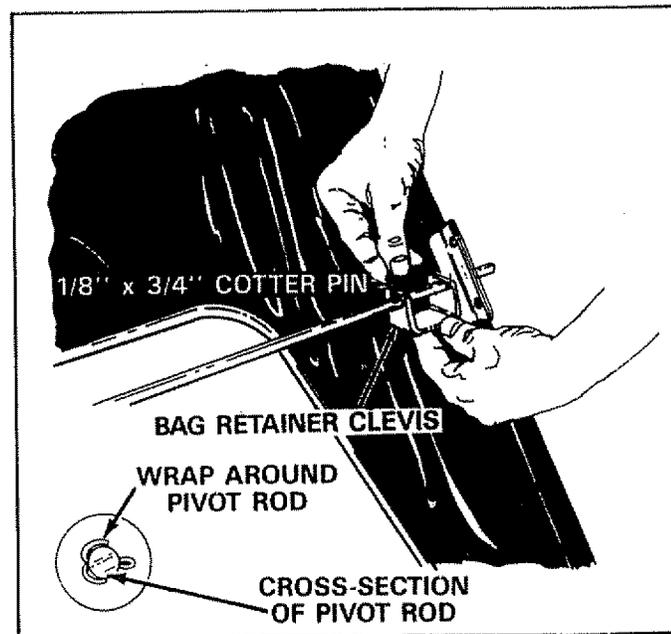

**FIGURE 20**
12. Slide pivot rod through hole in side of upper hopper tube that you just pierced in step 11. Slide one mounting clamp, two bag retainer clevises, and one more mounting clamp onto rod before rod is pushed into other hole on opposite side of bag. See figure 20.